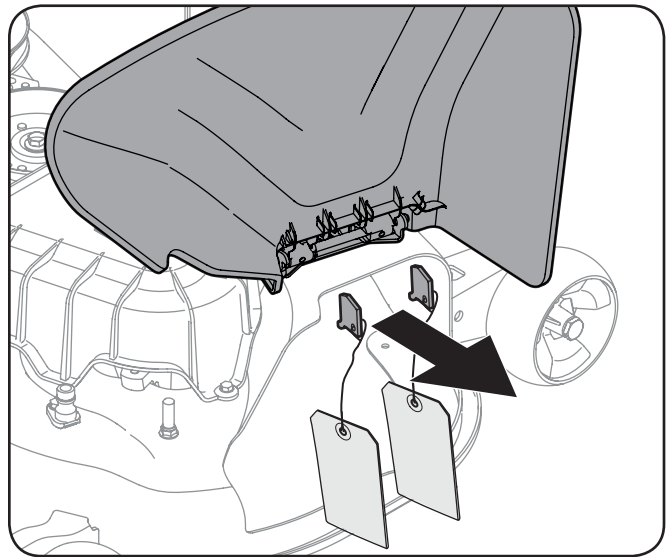

Figure 3-5
2. Check the mower deck for shipping braces (with tags) that may be holding the chute deflector upward for shipment. If braces are present they must be removed before operating the tractor. Holding the chute deflector fully upward, remove each shipping brace by grasping it and rotating it clockwise. Lower the chute deflector. See Figure 3-5.